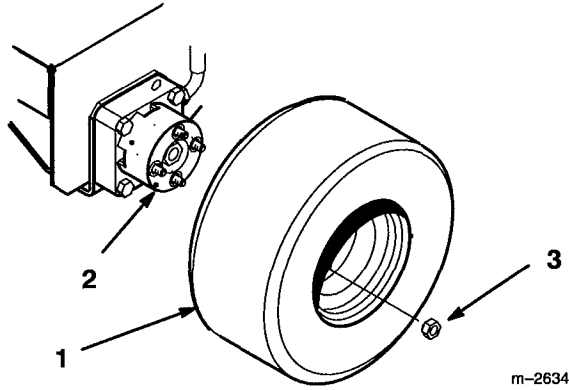

Figure 1
1. Mount wheels to wheel motor hubs with (8) lug nuts (Fig. 1). Torque bolts to 55 ft. lbs. (75 N.m).